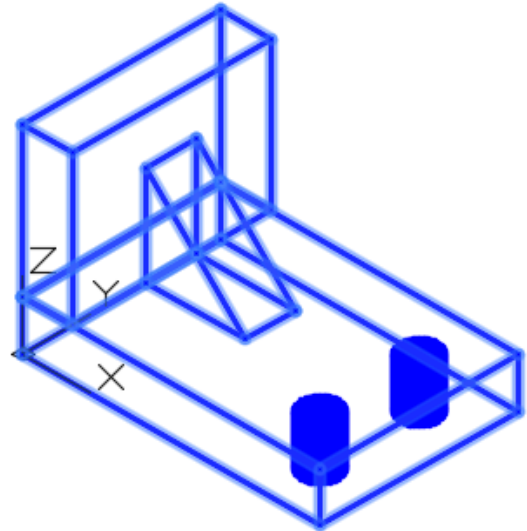

Figure Step 13
Step 13 Enter the UNION command, as shown below, to create one solid from the two boxes and the wedge. (Figure Step 13)